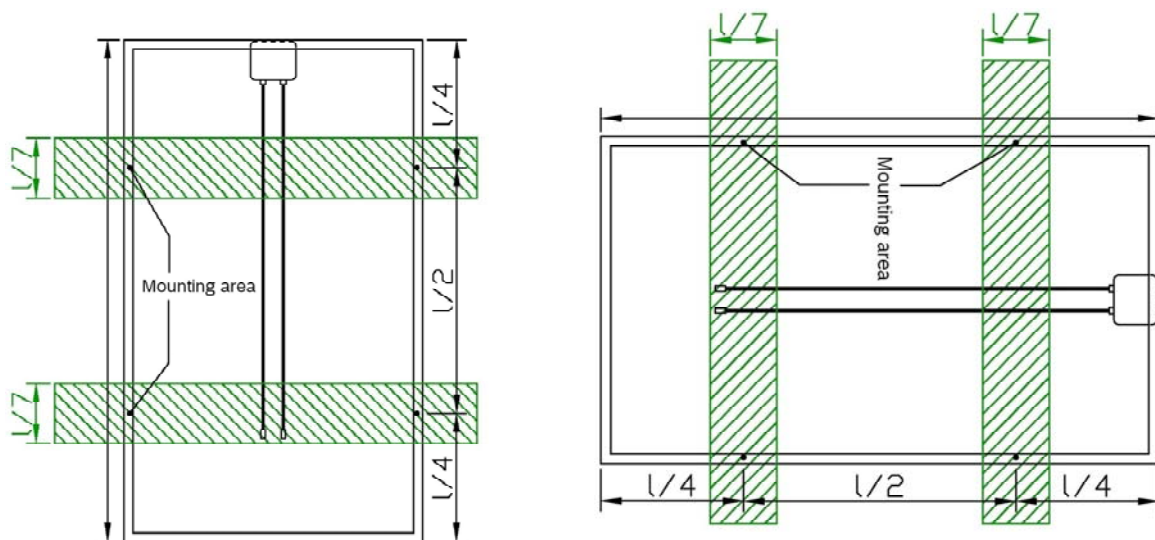

Figure 1 Mounting area of solar modules
- Note the mounting areas shown in Figure 1. The modules must be securely fastened at a minimum of four points (see mounting holes in the frame drawing). The frame has been structurally approved for fastening on the long sides; it must not be fastened on the short sides.